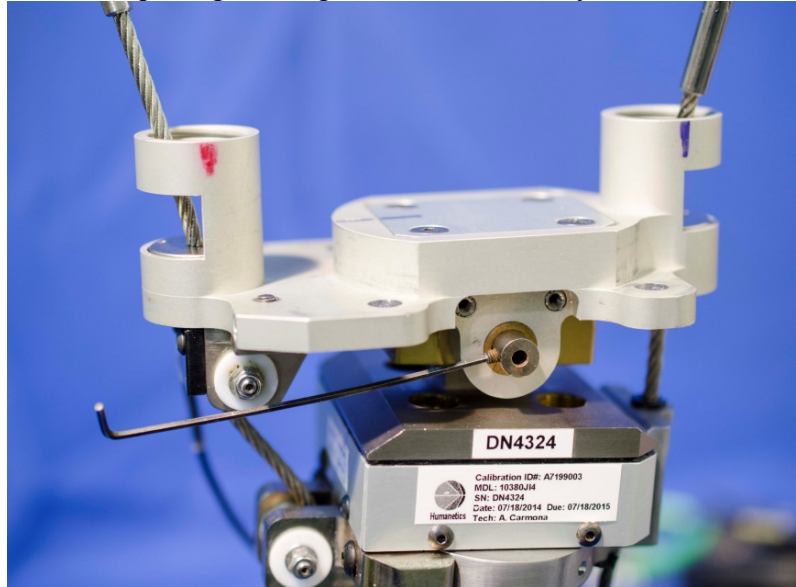

Figure 4-40. Loosely install set-screw into O.C pin
- 4.2.2.27 Loosely install the M3 x 0.5 x 3 mm SSS cone point set screw into the Neck Occipital Condyle Pin (472-2011) (Figure 4-40). The set-screw should not enter the shaft opening at this point in the assembly.